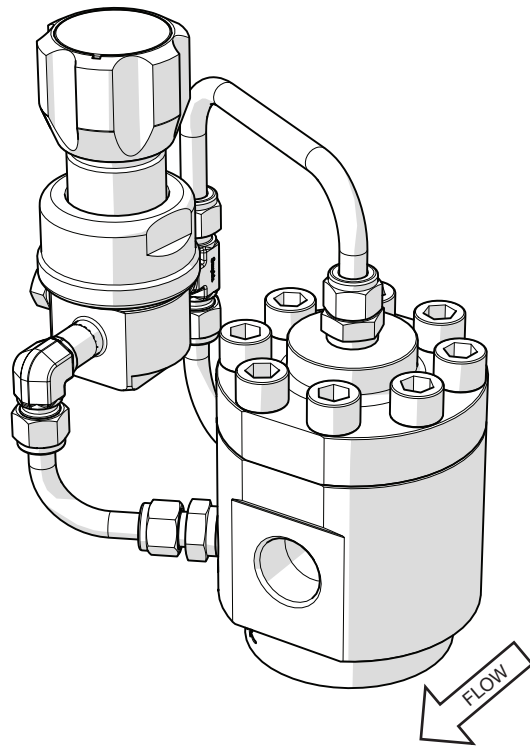
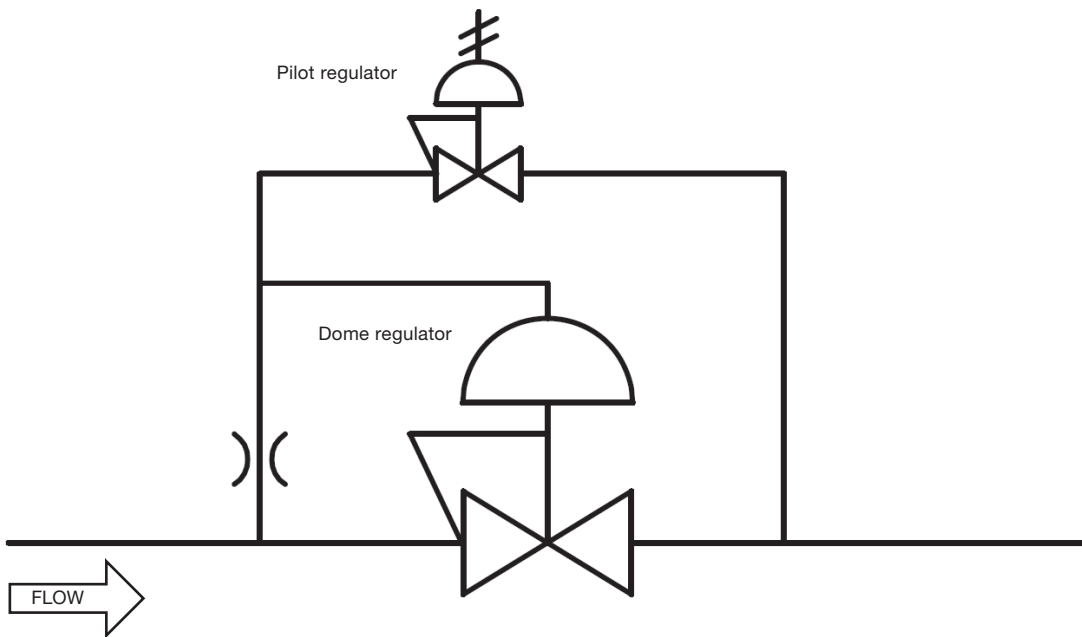

Figure 1
Figure 2
- The preferred mounting position of the regulator is horizontal with the spring housing/dome facing upwards according to Figure 1 (See page 9). Alternative mounting positions may increase the risk of component wear.
- **Integral pilot control.** In this setup the dome loaded regulator comes supplied with a pilot regulator as part of the assembly (Figure 1). The pilot regulator, fed from the system pressure, is manually operated to control the dome pressure (Figure 2). This setup is not suitable for liquid applications.